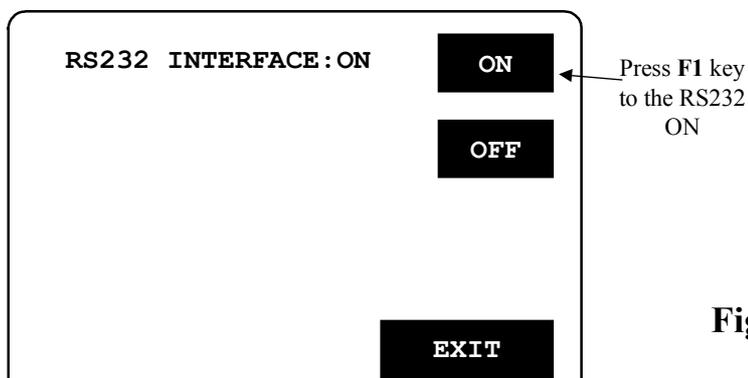

Figure 8-1
- 2) Enable the RS232 function of the instrument as follows (Figure 8-1):